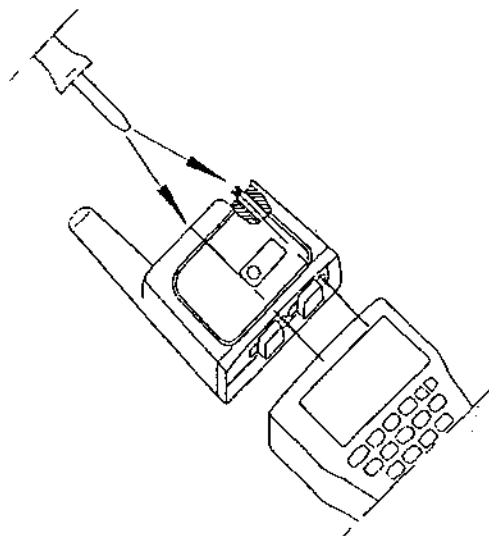

FIG. 1
At the indicated range values, a stationary transponder will be acquired within 1 second. the reading range is the distance of a transponder from the vertical edge of the DHP 101/102 reader module housing (see FIG. 1) as measured along the imaginary antenna axis.
- * **Orientation of the transponder** with respect to the reader module: The transponder axis should be parallel to the axis of the reader antenna (see Fig. 1, 2 for disk or rod-shaped transponders). The larger the angle between the axes, the shorter the effective range.
The reader module will confirm the successful reading of a transponder by means of an optical signal, i.e. flashing of the „READ“ indicator on the front display (see Fig. 1,2).